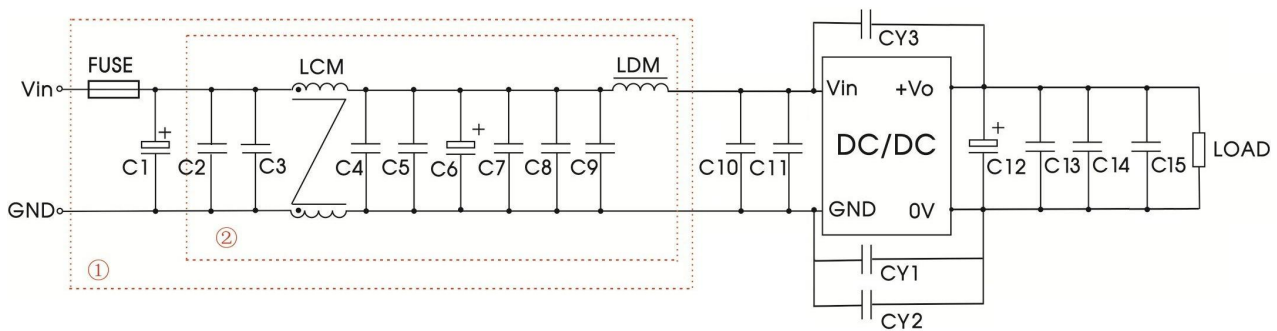

Fig. 3
Notes: We use Part ① in Fig. 3 for Immunity tests and Part ② for Emissions test. Selecting based on needs.